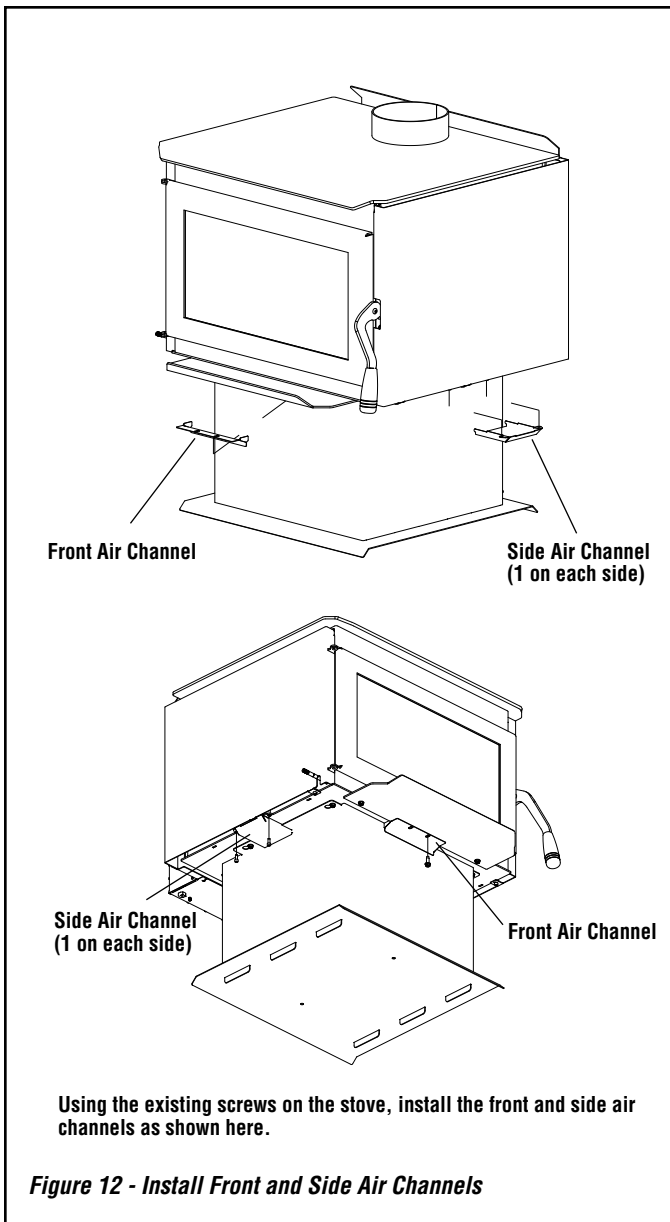

Figure 12 - Install Front and Side Air Channels
5. **Install Front and Side Air Channels** - Install the front and side air channels per the instructions in **Figure 12** on **Page 13**.